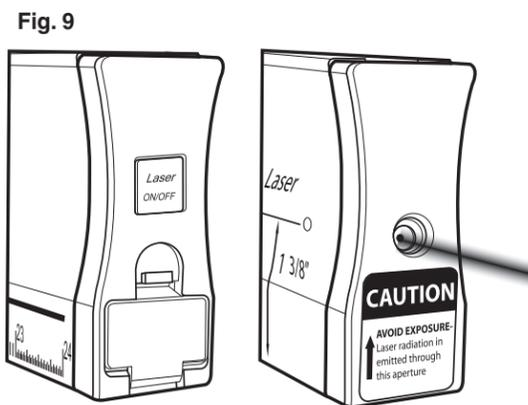

Fig. 9
LASER TRAC™ ALIGNMENT (Fig. 9)
1. To activate the Laser Trac™, press in the Laser On Demand Button located on the right endcap of the level (Fig. 9).